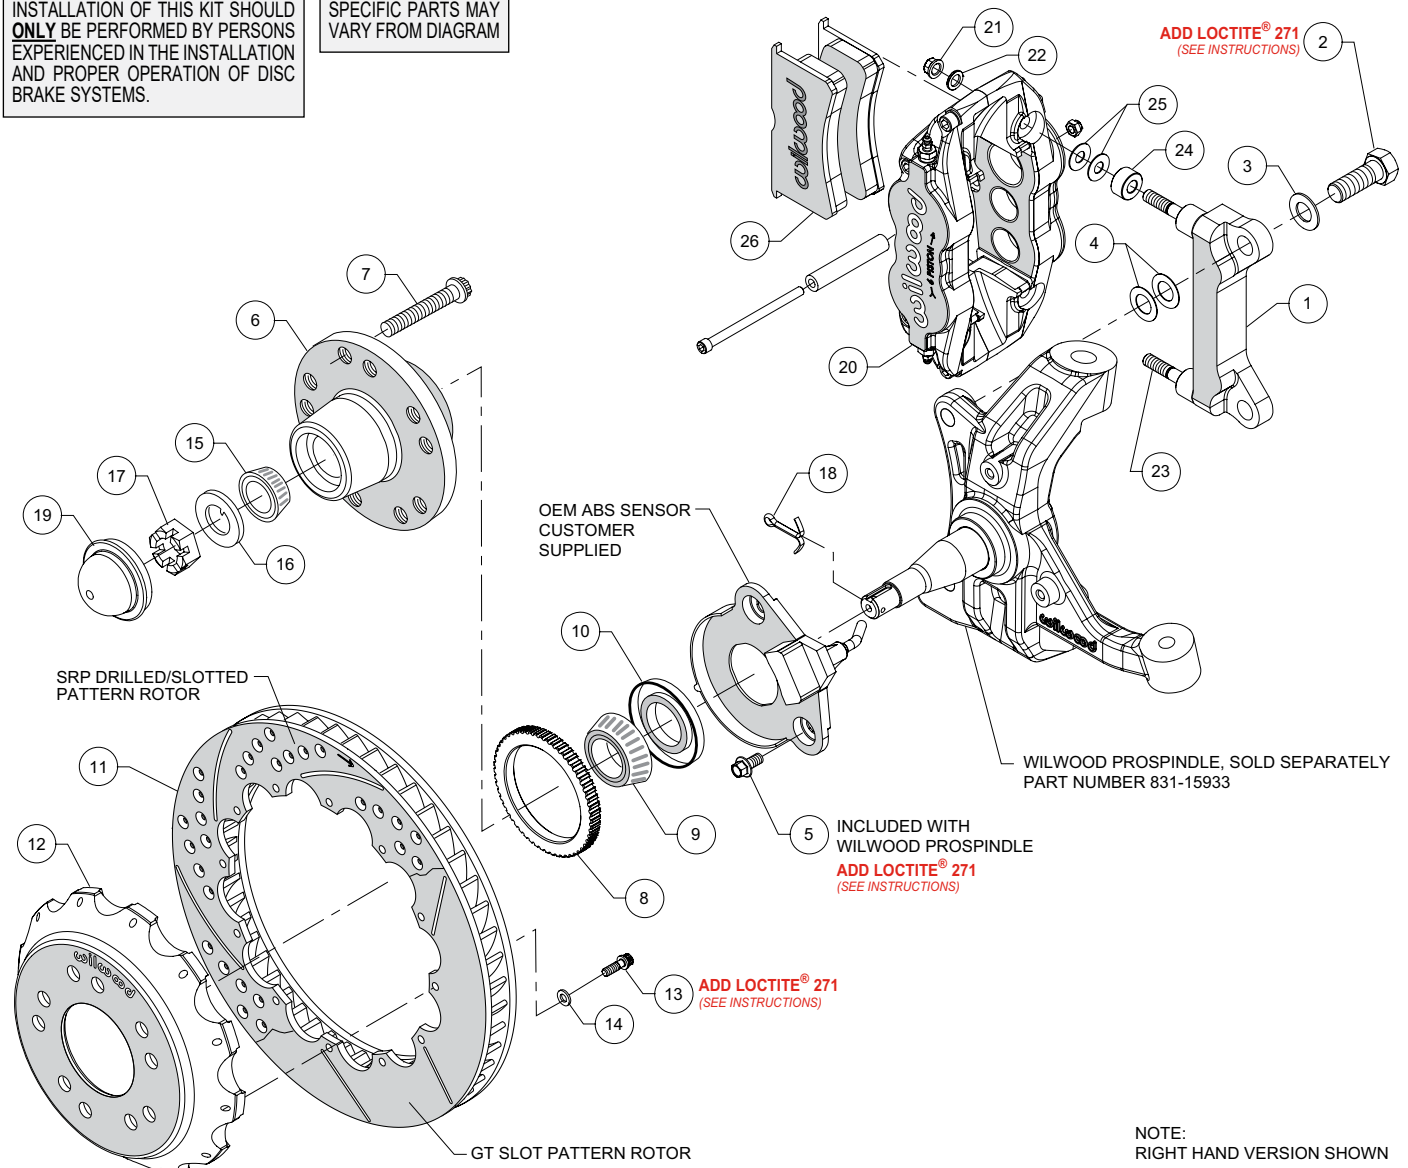
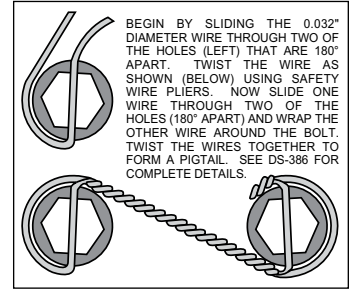

Figure 1. Typical Installation Configuration
Figure 3. Safety Wire Diagram
NOTE: Numbers in parenthesis refer to the parts list and Figure 1 on the preceding pages.
- For vehicles equipped with ABS, install the OEM ABS sensor (customer supplied) to the spindle using bolts (5) as shown in Figure 1 and Photo 3. Temporarily tighten the mounting bolts. **NOTE: The sensor must fit squarely against the mount bosses on the spindle.** Inspect for interference from casting irregularities, machining ridges, burrs, etc. Remove the bolts one at a time and apply red *Loctite*® 271 to the threads, and torque to 20 ft-lb.
- The caliper mount bracket (1) should initially be installed with clean, dry threads on the mounting bolts. Orient the bracket, as shown in Figure 1 and Photo 4, and install using bolts (2) and washers (3). Initially place two .024" thick shims (4) on each bolt between the bracket and spindle, Figure 1. Temporarily tighten the mounting bolts. **NOTE: The bracket must fit squarely against the mount bosses on the spindle.** Inspect for interference from casting irregularities, machining ridges, burrs, etc. Later, after the caliper alignment has been checked, the mount bolts will be secured using red *Loctite*® 271.
- Install wheel studs (7) into the hub (6), Photo 5. Torque to 77 ft-lb. **NOTE: There are two five lug patterns in the hub (5 x 4.75 and 5 x 5.00).** Ensure the correct hub stud pattern is being used to fit the wheel application.
- For vehicles equipped with ABS, carefully press the ABS ring (8) onto the backside of the hub (6) as shown in Figure 1 and Photo 6.
- Pack the large inner bearing cone (9) with high temperature disc brake bearing grease (available from your local auto parts store) and install into the backside of the hub (6), Photo 7.
- Install the grease seal (10) by pressing into the backside of the hub (6), flush with the end of the hub, Photo 7.
- Press the dust cap (19) into the hub (6). **NOTE: Do not hammer center of cap. Install using outer flange only.**
- Orient the rotor (11) and the hat (12) as shown in Figure 1 and Photo 9. Attach rotor to hat using bolts (13) and washers (14). Apply red *Loctite*® 271 to the bolt threads and torque to 155 **in-lb** using a criss-cross pattern. For an added measure of security, the bolts may be safety wired using standard 0.032 inch diameter stainless steel safety wire as shown in Figure 3. Refer to Wilwood's data sheet DS-386 (available at www.wilwood.com/Pdf/DataSheets/ds386.pdf) for complete safety wire installation instructions.
- Slide the hat/rotor (12 and 11) onto the hub (6), Photo 10. **NOTE: The hat must fit flush against the hub face or excessive rotor run out may result.** Install three lug nuts (finger tight) to keep the hat/rotor in place while continuing with the installation.
- NOTE: This kit contains distinct right and left hand calipers that must be mounted in a specific direction, as described below.** Initially place two .035" thick shims (25) and one spacer (24) on each stud between the caliper and the bracket, as shown in Figure 1 and Photo 11. Mount the caliper (20) onto the bracket (1) using lock nuts (21) and washers (22), Figure 1. Temporarily tighten the lock nuts. Ensure that the caliper is mounted so that the largest pistons are at the rotor exit end of the caliper, in relation to the direction of rotor rotation. View the rotor through the top opening of the caliper. The rotor should be centered in the caliper, Photo 12. If not, adjust by adding or subtracting shims (4) between the bracket and the spindle. Always use the same amount of shims on each of the two mounting bolts. Once the caliper alignment is correct, remove the bracket mounting bolts one at a time, apply red *Loctite*® 271 to the threads, and torque to 140 ft-lb.